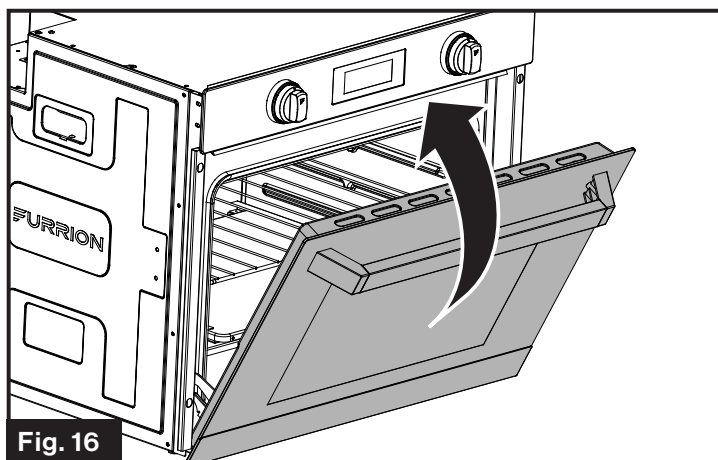

Fig. 16
4. Close the door until it stops. (Fig. 16)